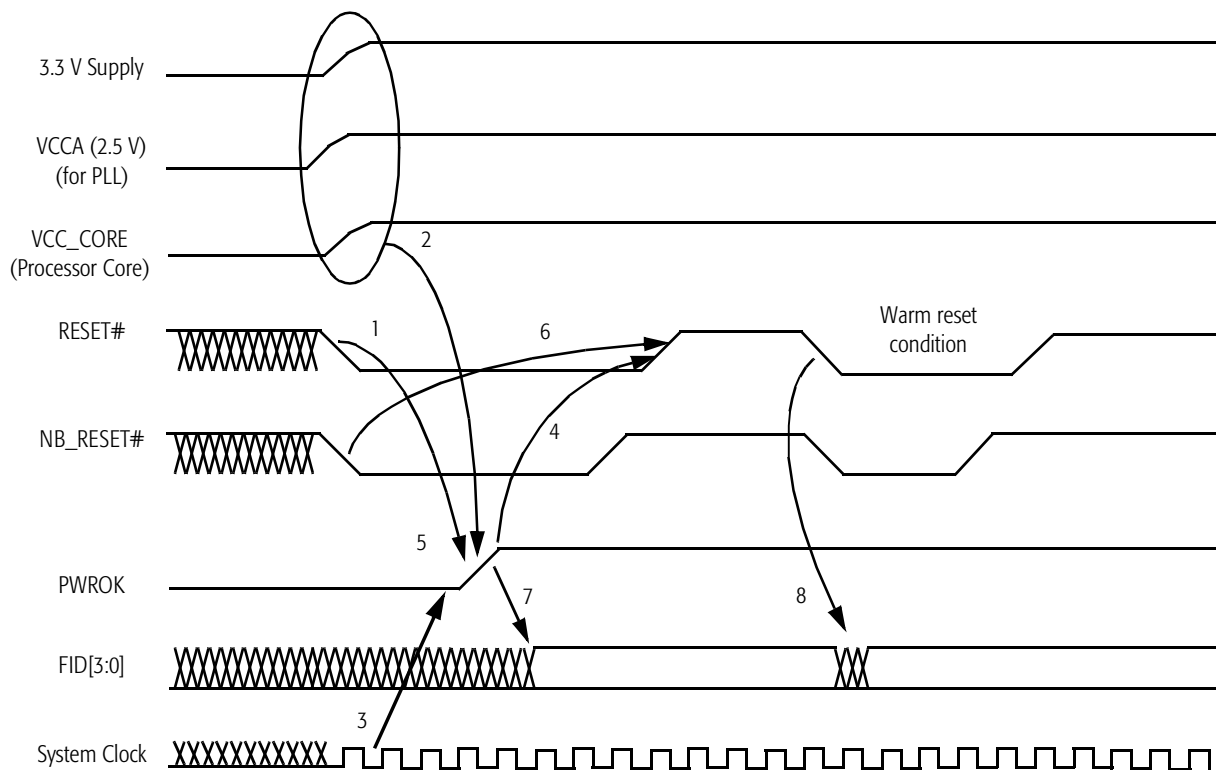

Figure 11. Signal Relationship Requirements During Power-Up Sequence
Figure 11 shows the relationship between key signals in the system during a power-up sequence. This figure details the requirements of the processor.
1. Figure 11 represents several signals generically by using names not necessarily consistent with any pin lists or schematics.
2. Requirements 1–8 in Figure 11 are described in “Power-Up Timing Requirements.” on page 44.